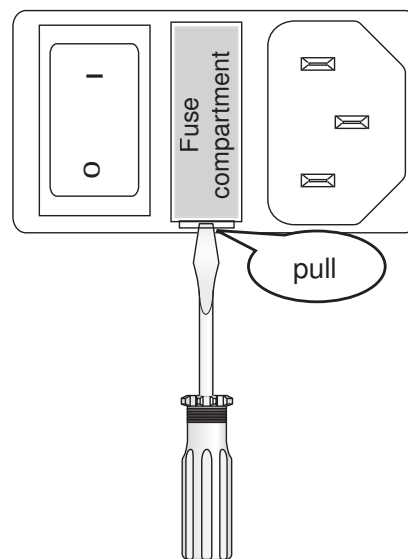

Figure 31 Fuse compartment
- Carefully pull out the fuse compartment by a screwdriver as shown in figure 31.